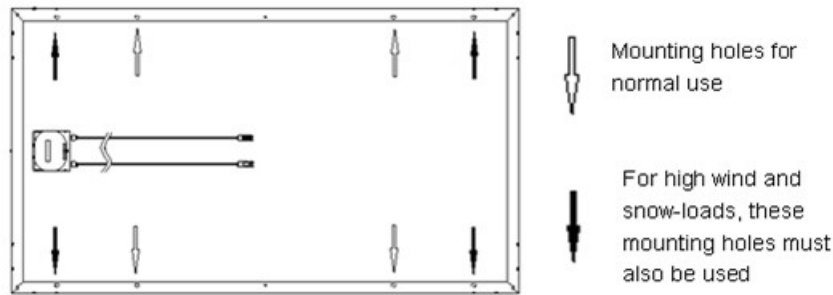

FIG 4 Mounting holes
- ✚ The frame of each module has 4 mounting holes used to secure. As shown in Figure 4, four mounting